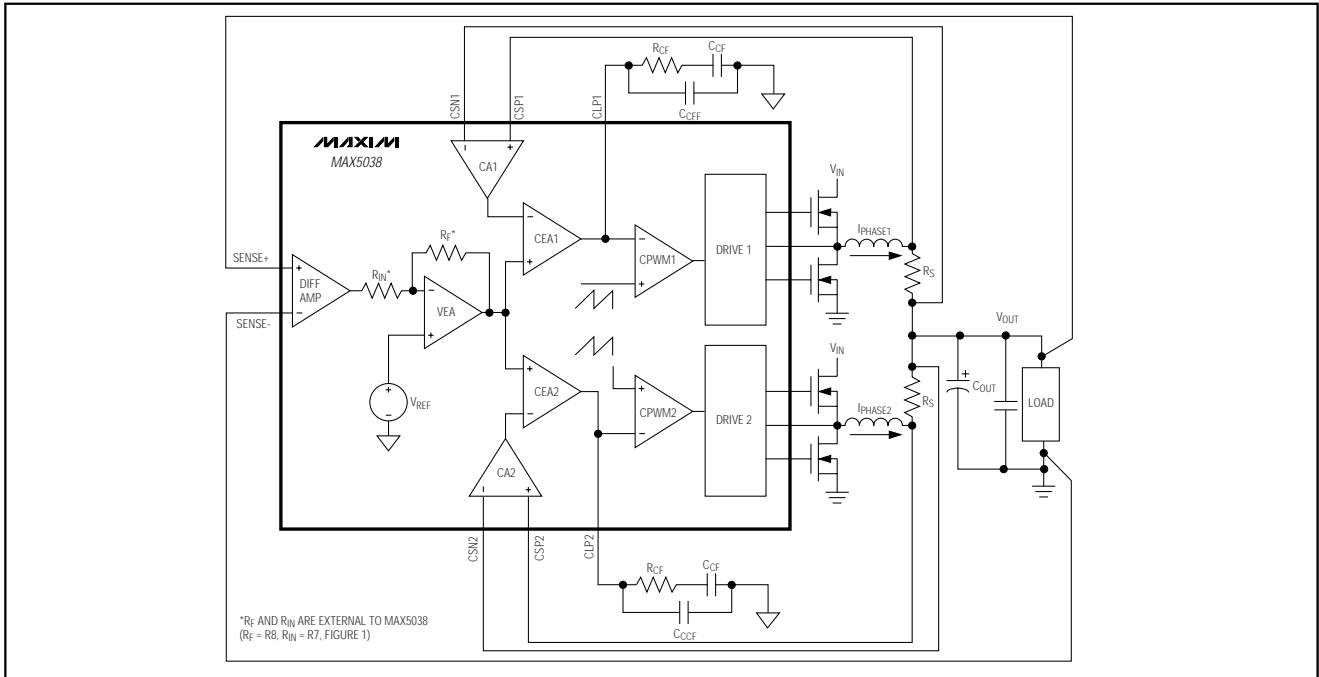

Figure 3a. MAX5038 Control Loop
The MAX5038/MAX5041 use an average current-mode control scheme to regulate the output voltage (Figures 3a and 3b). The main control loop consists of an inner current loop and an outer voltage loop. The inner loop controls the output currents (I_{PHASE1} and I_{PHASE2}) while the outer loop controls the output voltage. The inner current loop absorbs the inductor pole reducing the order of the outer voltage loop to that of a single-pole system.
The outer voltage control loop consists of the differential amplifier (DIFF AMP), reference voltage, and VEA. The unity-gain differential amplifier provides true differential remote sensing of the output voltage. The differential amplifier output connects to the inverting input (EAN) of the VEA. The noninverting input of the VEA is internally connected to an internal precision reference voltage. The MAX5041 reference voltage is set to +1.0V and the MAX5038 reference is set to the preset output voltage. The VEA controls the two inner current loops (Figures 3a and 3b). Use a resistive feedback network to set the VEA gain as required by the adaptive voltage-positioning circuit (see the *Adaptive Voltage Positioning* section).
Each phase of the MAX5038/MAX5041 has a dedicated transconductance current-error amplifier (CEA₋) with a typical g_m of 550 μ S and 320 μ A output sink and source current capability. The current-error amplifier outputs, CLP1 and CLP2, serve as the inverting input to the PWM comparator. CLP1 and CLP2 are externally accessible to provide frequency compensation for the inner current loops (Figures 3a and 3b). Compensate CEA₋ such that the inductor current down slope, which becomes the up slope to the inverting input of the PWM comparator, is less than the slope of the internally generated voltage ramp (see the *Compensation* section).
The differential amplifier (DIFF AMP) facilitates output voltage remote sensing at the load (Figures 3a and 3b). It provides true differential output voltage sensing while rejecting the common-mode voltage errors due to high-current ground paths. Sensing the output voltage directly at the load provides accurate load voltage sensing in high-current environments. The VEA provides the difference between the differential amplifier output (DIFF) and the desired output voltage. The differential amplifier has a bandwidth of 3MHz. The difference between SENSE+ and SENSE- regulates to the preset output voltage for the MAX5038 and regulates to +1V for the MAX5041.
The VEA output clamps to +0.9V (plus the common-mode voltage of +0.6V), thus limiting the average maximum current from individual phases. The maximum average current-limit threshold for each phase is equal to the maximum clamp voltage of the VEA divided by the gain (18) of the current-sense amplifier. This allows for accurate settings for the average maximum current for each phase. Set the VEA gain using R_F and R_{IN} for the amount of output voltage positioning required as discussed in the *Adaptive Voltage Positioning* section (Figures 3a and 3b).
Average current-mode control has the ability to limit the average current sourced by the converter during a fault condition. When a fault condition occurs, the VEA output clamps to +0.9V with respect to the common-mode voltage ($V_{CM} = +0.6V$) and is compared with the output of the current-sense amplifiers (CA1 and CA2) (see Figures 3a and 3b). The current-sense amplifier's gain of 18 limits the maximum current in the inductor or sense resistor to $I_{LIMIT} = 50mV/R_S$.